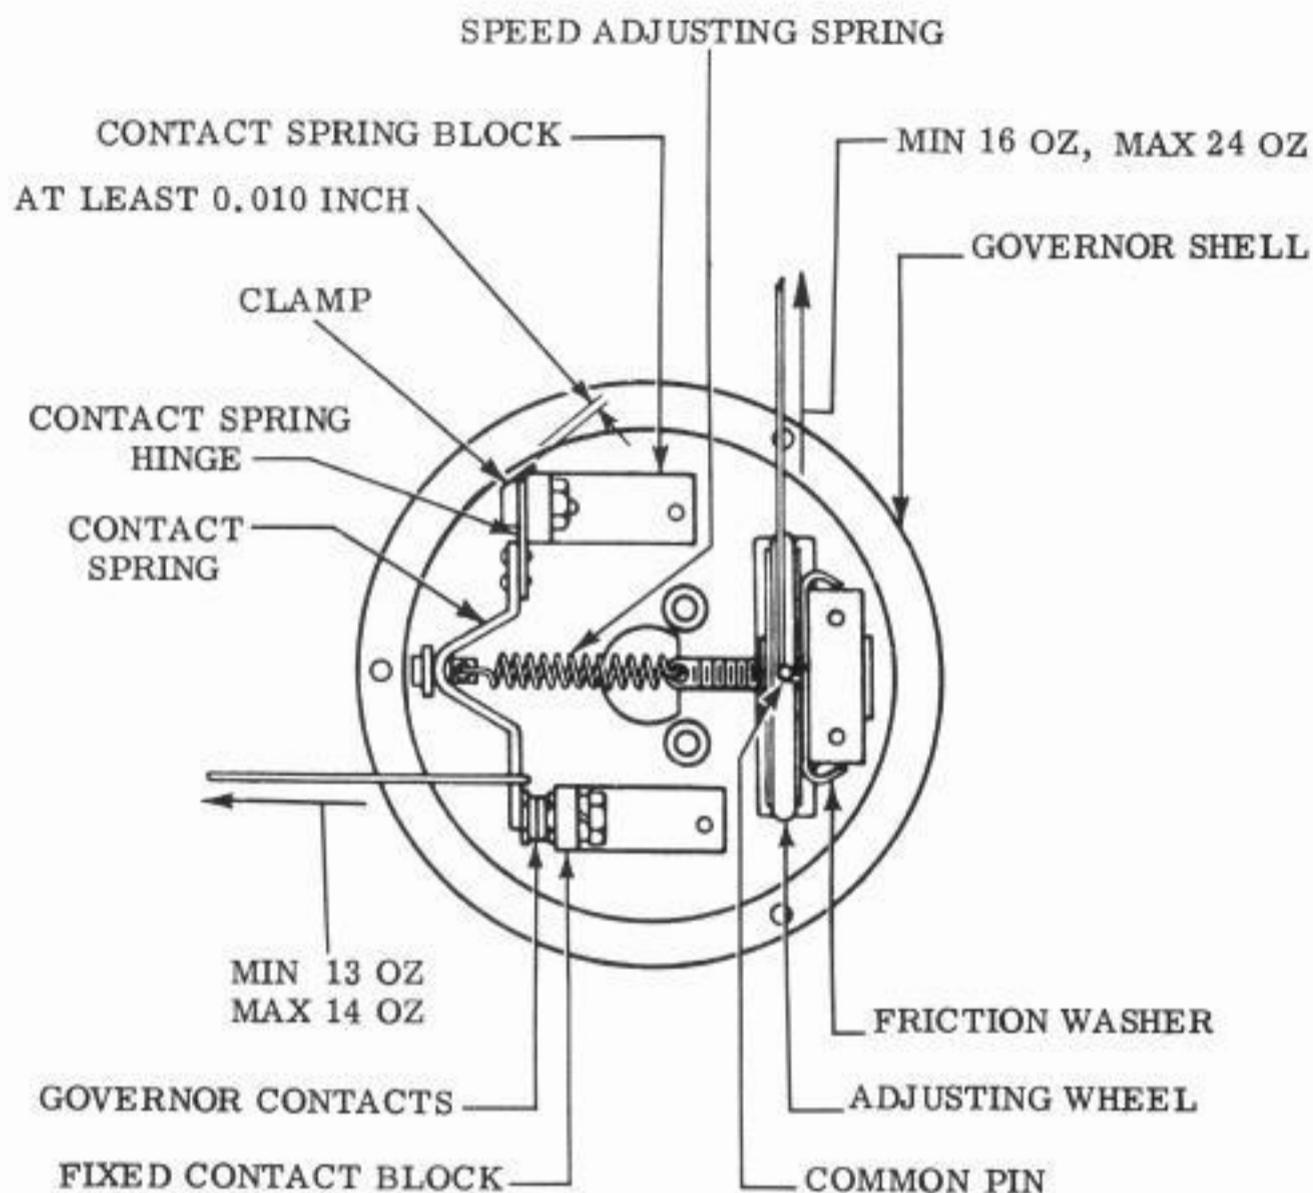

Figure 7 - Center Contact Governor Assembly
To Adjust: Position the contact-spring block by means of its mounting screws. On governors having peripheral or edge-contacting slip rings, note that this gap is free of dirt and metal particles which may tend to short-circuit the rings and the governor contacts. See Figures 7 and 16(B).
To Adjust: Remove the friction washer and bend the large projections. (See Figure 7.)
(8) Adjusting Governor Speed: With the motor at rest, turn the adjusting wheel (Figure 7 or 16) as indicated by the letters S and F to decrease or increase the speed respectively. On two-speed governors, the
outer adjusting wheel is for adjusting the high speed, and the inner adjusting wheel is for adjusting the low speed. As the inner adjusting wheel is not very accessible, a screwdriver or other slender object should be used to engage it. Tuning fork TP103628 (87.5 V.P.S.) is recommended for setting the speeds, as explained in the section covering the speed regulation of teletypewriter apparatus. (See Figures 7 and 16.)